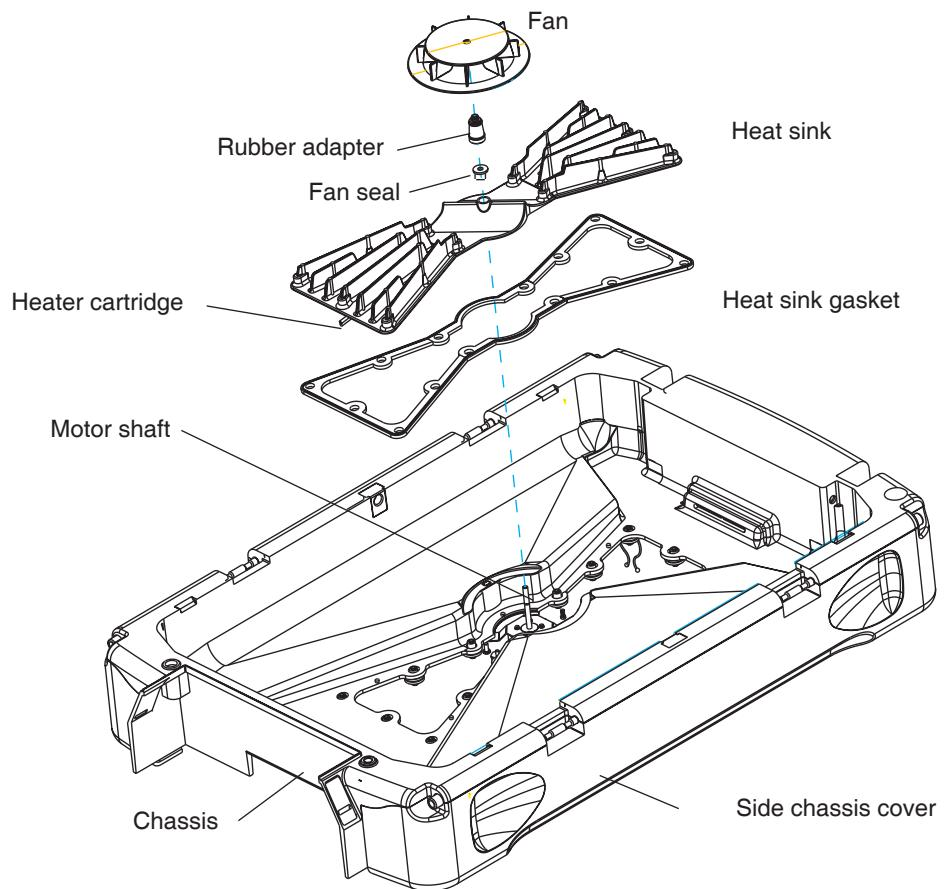

Figure 5-6
5.4.3 Cartridge heater replacement (Figures 5-6 and 6-9)